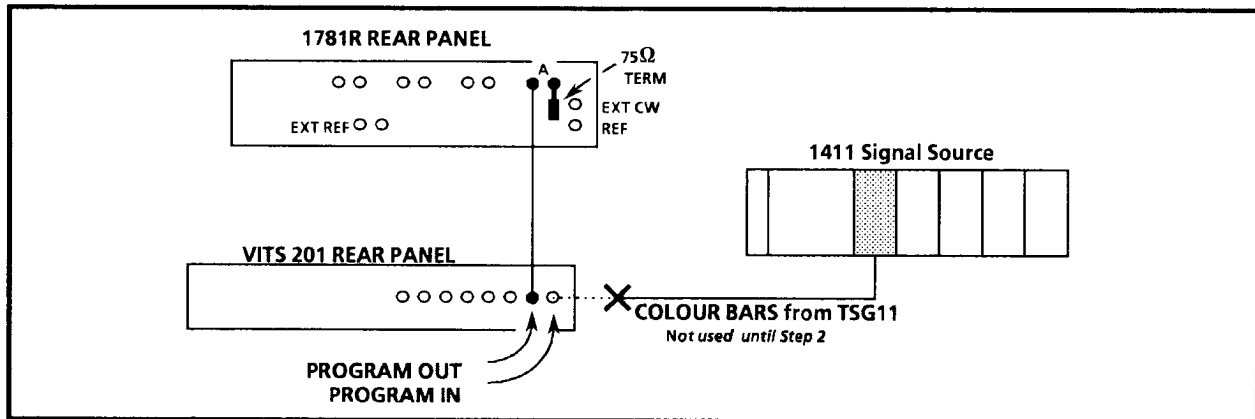

Figure 6-11. Setup to adjust PROGRAM channel gain.
- a. Connect the equipment as shown in Figure 6-11.
- a. Leave the equipment as shown in Figure 6-11, except connect the 100% Colour Bars from the 1411 to the VITS 201 PROGRAM IN.